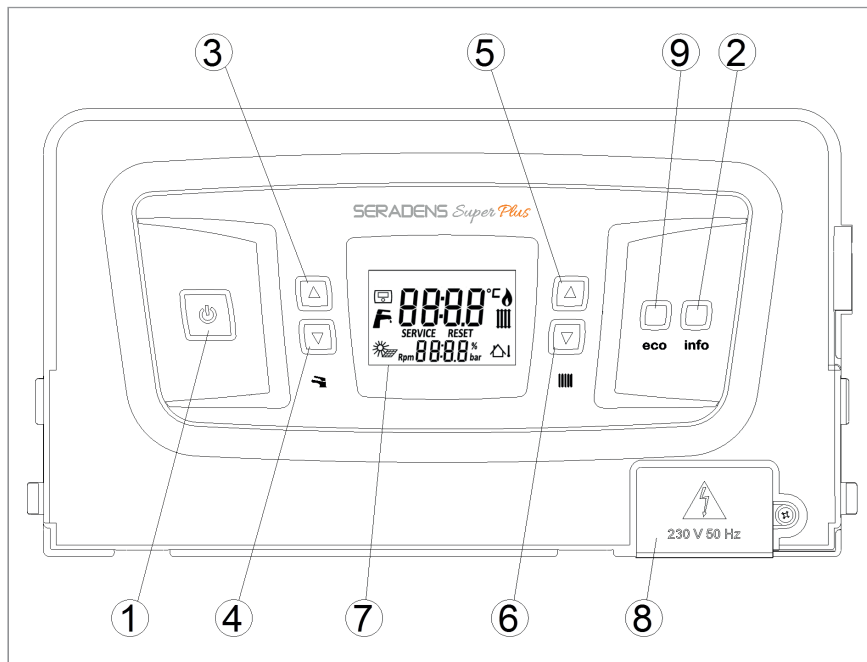

Figure 1. Control panel
You can activate the user info menu simply pressing the Info key (2) (Figure 1) for a time period of 2 seconds. You can see many information and values alternately in the user info menu. To display sequentially all the other variables supported, press the DHW temperature increase (3) and decrease (4) keys.
Press key **(1)** (Figure 1) to operate your boiler in “SUMMER” mode and see only the tap symbol () continuously shown on the display. At this mode combi boiler only operates for the domestic hot water (DHW) system. The automatic ignition system lights the burner every time if there is a demand for DHW. The existence of the flame is shown with a flame symbol () on the display. During DHW usage, the tap symbol () on the display blinks.
In order to operate the combi boiler in “WINTER” mode, press key **(1)** (Figure 1) and see tap symbol () and radiator symbol () continuously shown on the display. At this mode combi boiler operates for the domestic hot (DHW) and heating (CH) systems. The automatic ignition system lights the burner every time there is a demand for both. The existence of the flame is shown with flame symbol () on the display. In this case, the tap symbol () on the display blinks when system operates for DHW and radiator symbol () blinks when system operates for CH.
In order to operate the combi boiler in “ONLY HEATING” mode, press key **(1)** (Figure 1) and see only radiator symbol () continuously shown on the display. At this mode combi boiler only operates for heating (CH) system. The automatic ignition system lights the burner every time there is a demand for CH system. The existence of the flame is shown with flame symbol () on the display. In this case, radiator symbol () blinks when system operates for CH.
The appliance can also be operated in economy mode, whose conditions are previously defined. When the user pushes ECO key (9) (Figure 1), system sets the heating water temperature to 50°C automatically, this is the optimum value between condensing and room temperature comfort. If the appliance's parameter settings were done in reference to low temperature range (underfloor heating), then heating water temperature in ECO mode is 38°C. Domestic hot water outlet temperature is set to 45°C for both low and normal temperature ranges.
- When electricity is supplied to the appliance, "OFF" word can be seen on the display. Pushing mode button (Figure 1) leads to change the operating mode, every push changes mode sequentially between SUMMER-WINTER-ONLY HEATING-OFF.
- Check that there are no flashing numbers on the display **(7)** (Figure 1) (also see Section 2.10). If code E04 appears on the display **(7)** this denotes that there is no water in the boiler. Consequently, fill the system as described in Section 2.8.
The heating temperature is regulated by using keys **(5)** and **(6)** (Figure 1).
DHW temperature is regulated by using keys **(3)** and **(4)** (Figure 1).
This paragraph contains a list of error codes that the boiler may generate on the display **(7)** (See Figure 1) together with the relative indications and the operations that the user can carry out to reset the boiler.
- Turn off and then turn on the appliance using button **(1)** (Figure 1) on the control panel. Let the system ignite by itself, if **E01** error remains, retry to turn off and turn on the appliance once again. This action is taken in order to be sure if the gas in the pipes reached to the appliance.